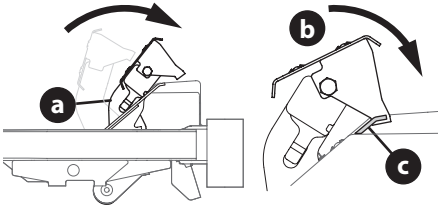

Figure 18
1. Push the brake pedal (a) all the way forward and to the right (Figure 18).